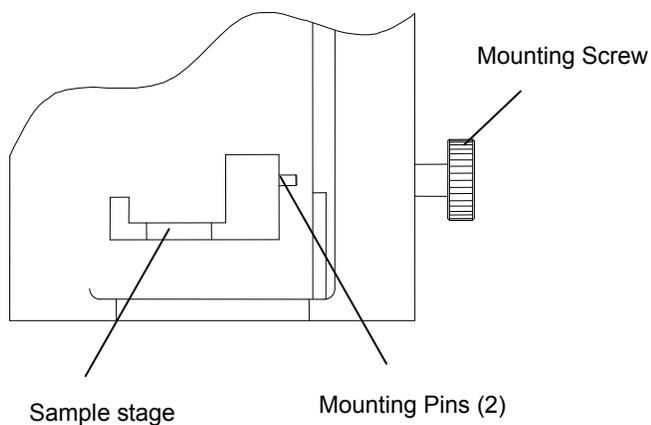

Figure 13 • Installing the HVC
- Grasp the sample stage (Figure 13) and unscrew its mounting screw.